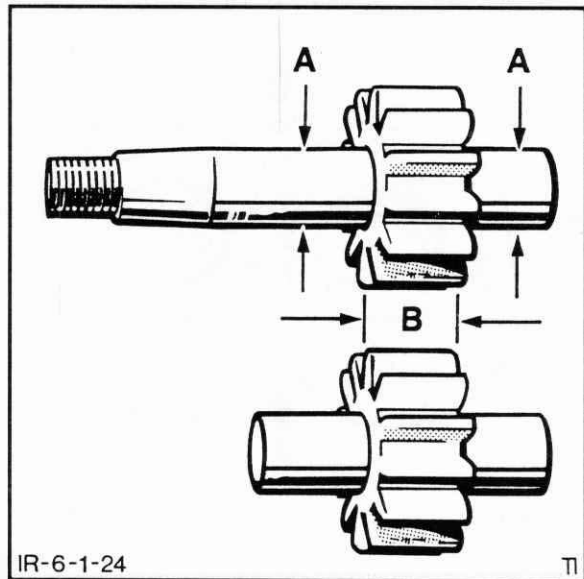

Figure 6-25
each other to ensure satisfactory pump efficiency, see Figure 6-25.
- b. Journals must be within 0.0005" (0.013 mm) of each other, Figure 6-25.